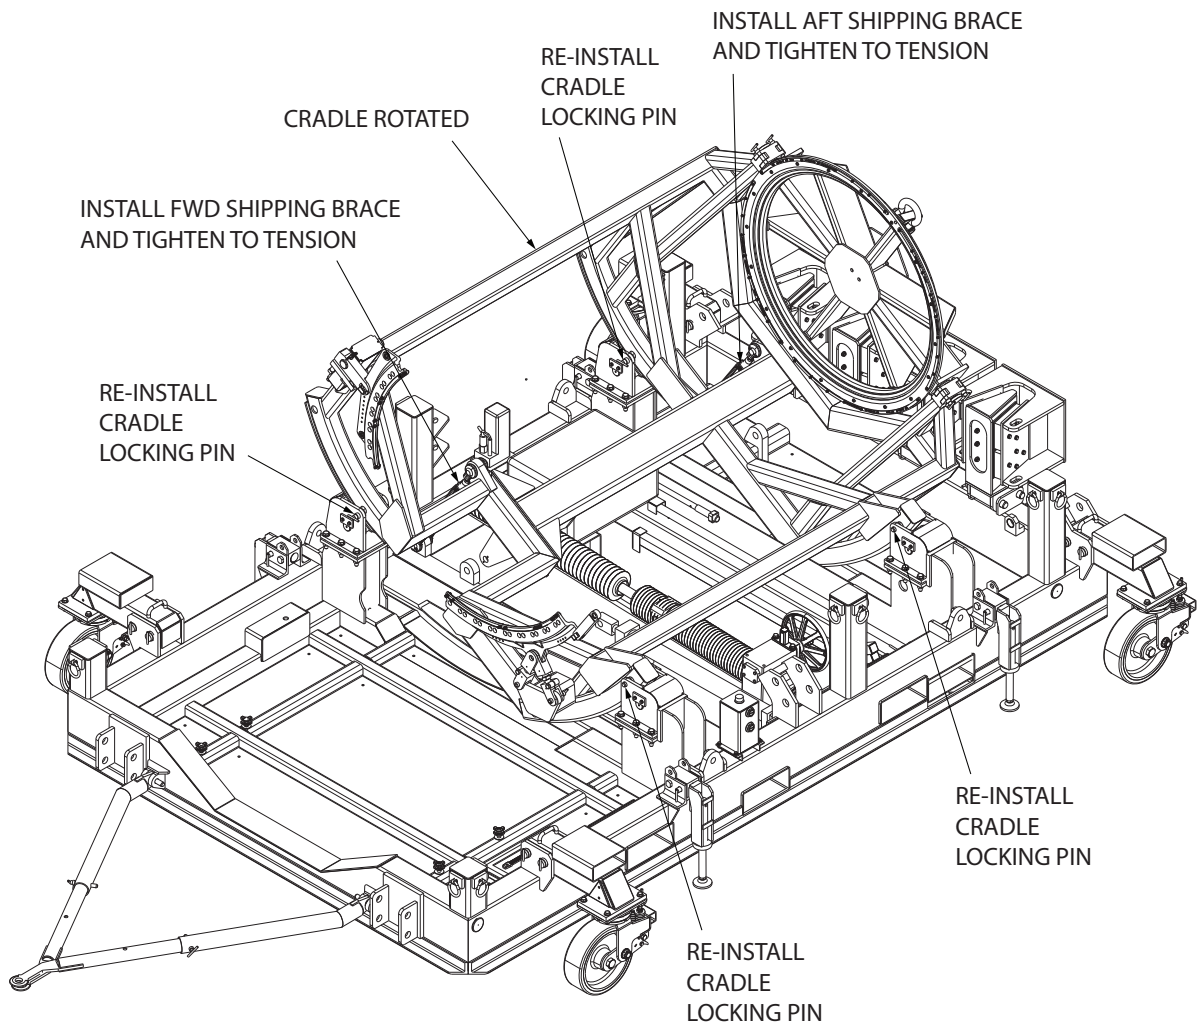

Figure 5.1-2 Rotation of Empty Cradle
- 4) Install four (4) locking pins when holes in cradle roll frames align with roller supports. (Figure 5.1-2).